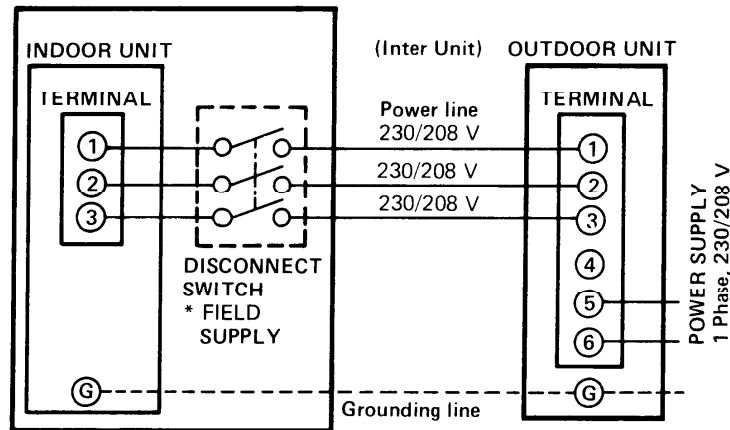

Fig. 21
- Connect interunit control line and power line per drawing on inside of the panel "C". Fig. 21